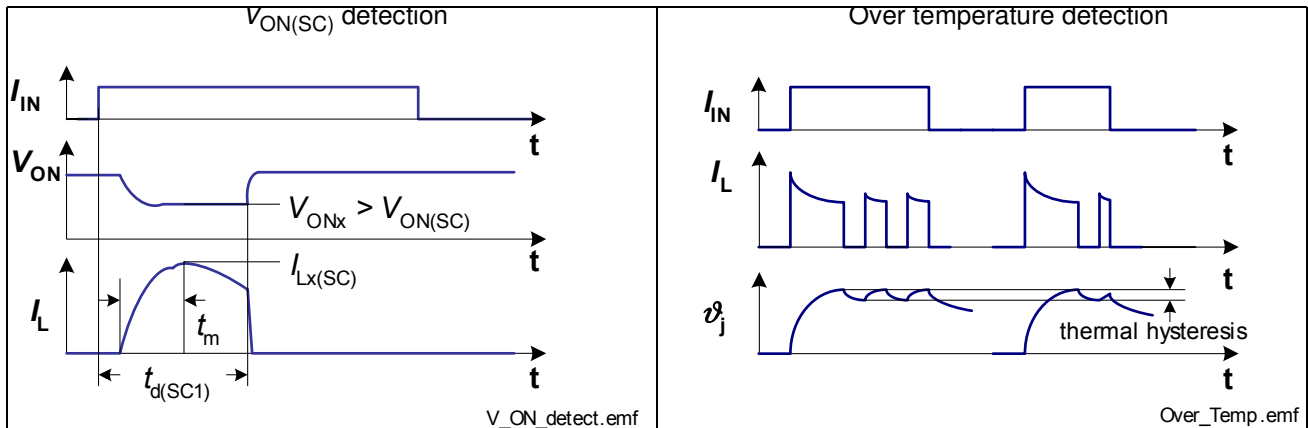

Figure 12 Overload Behavior
In the event that either the short circuit detection via $V_{ON(SC)}$ is not activated or that the on chip temperature sensor senses over-temperature before the blanking time $t_{d(SC1)}$ passed by, the device switches off resulting from over-temperature detection. After cooling down with thermal hysteresis, the devices switches on again. Please refer to **Figure 12** for details.
- 2) Short circuit current limit for max. duration of $t_{d(SC1)}$, prior to shutdown, see also Figure 12.